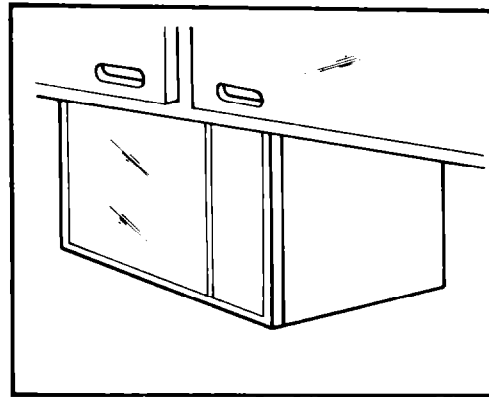

Fig.4
- The preferred installation position is to have the front of the microwave oven case slightly inset (approximately .2" from the cabinet front. (Fig.4)